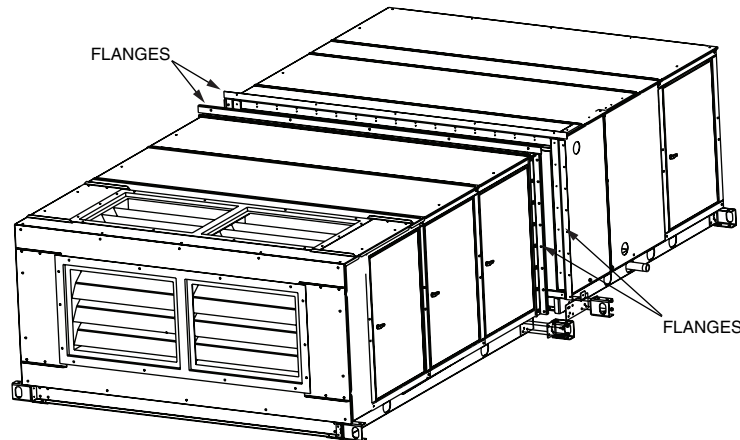

Fig. 15 — Base Rail Split — Flanges
2. Unscrew the flanges (top and sides) around the coil/fan section and the accessory section. See Fig. 15.